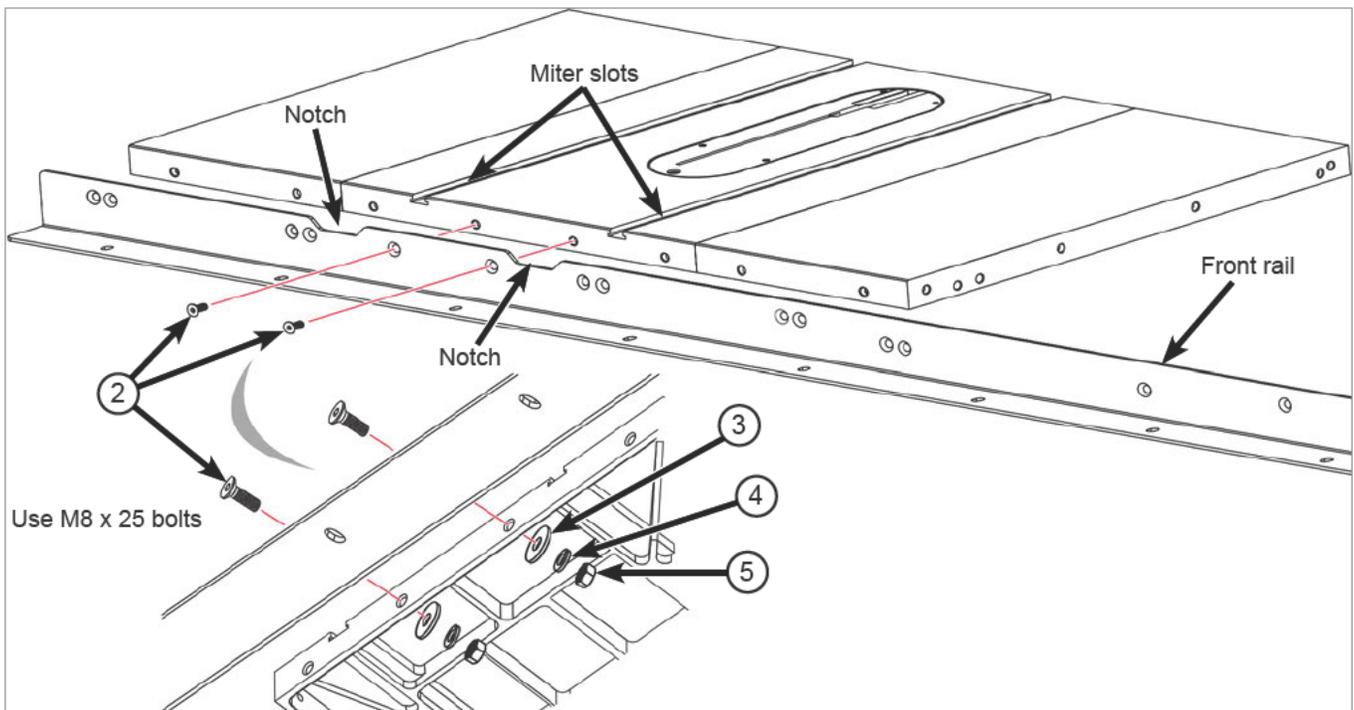

Fig. 9
1. Begin mounting the front rail (the longer of the two rails) to the front edge of your saw by centering the notches in the rail with the two miter slots in the table, aligning the two holes in the rail between the notches with the two corresponding holes in the front edge of the table, and inserting an M8 x 25 countersunk socket head bolt (2) into each hole. Aligning the two holes between the notches aligns all the other holes used in mounting the rail to your saw. Not all the holes are used to mount the rail to your saw; different holes are used for different saws. Insert the bolts one at a time, placing an M8 washer and an M8 lock washer on the threaded end of each bolt and then threading on an M8 hex nut (See Fig. 9). Hand tighten the nuts; do not fully tighten them.